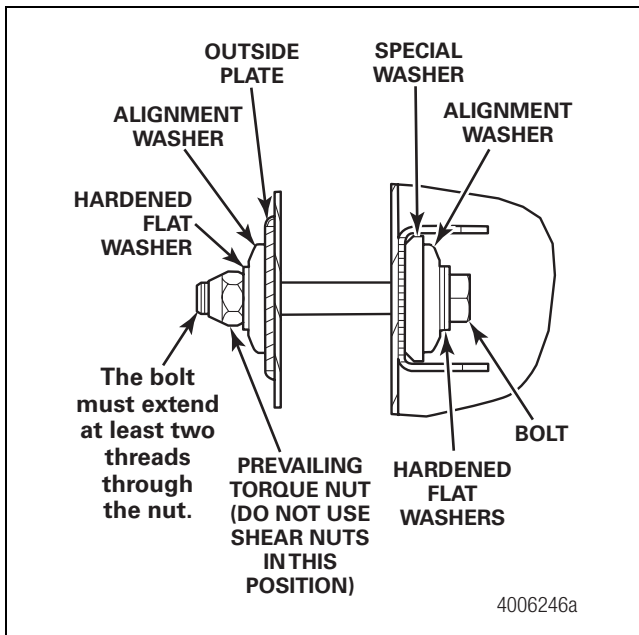

Figure 25
12. Reassemble the suspension using the hardware provided. When installing the special bolt, it may be necessary to install two washers under the head of the bolt to ensure that there is no interference with the threads of the bolt and the tire. Ensure that there are at least two threads through the nut, but not enough bolt extending through the nut to interfere with the tires. Figure 25.